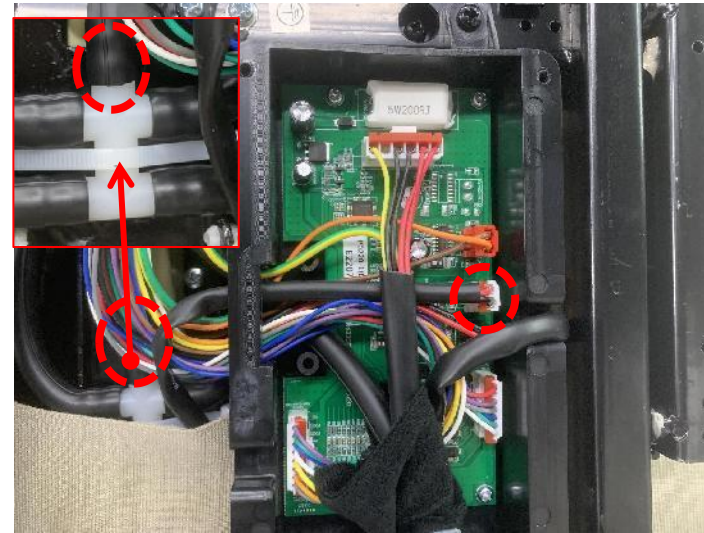

Figure 2
2. Separate the calf kneading plug-in and the trachea at the red circle (Figure 2)